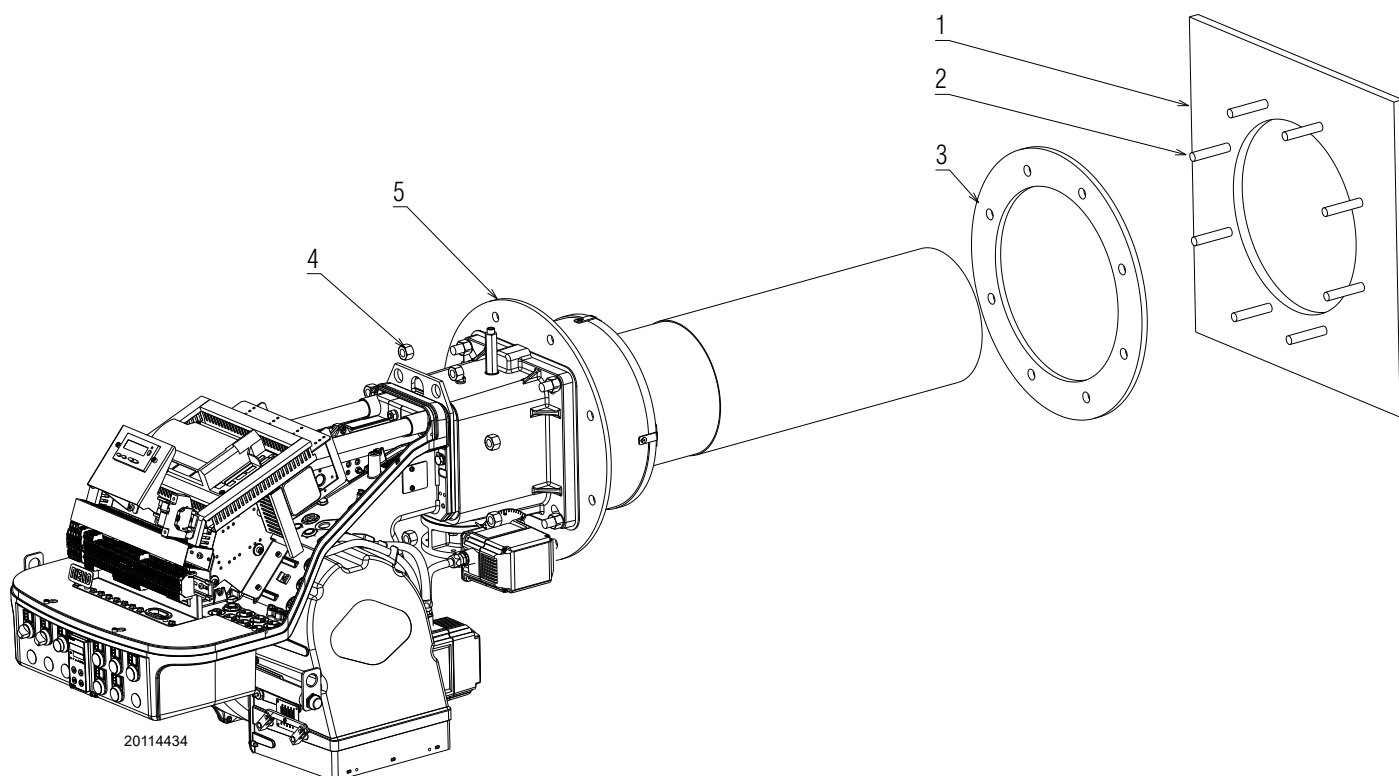

Fig. 11
- Secure the burner to the boiler 1), fixing the flange 5)(Fig. 11) to the boiler plate and interposing the insulating gasket 3).